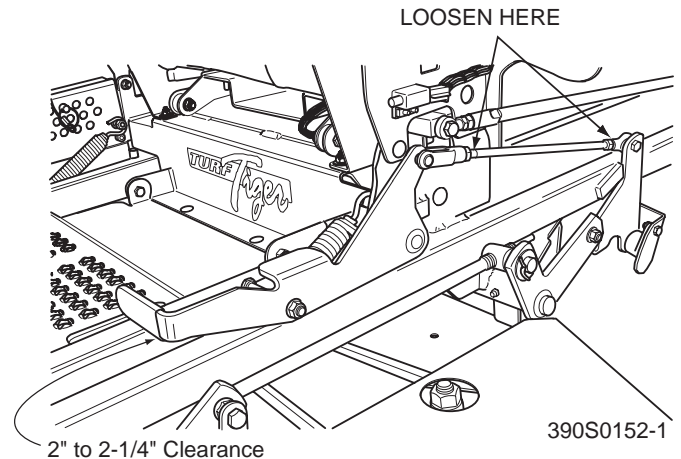

Figure 6-1. Brake Adjustment
2. With the brake lever in the disengaged position, check the distance between the top of the frame tube and the bottom of the brake handle. The distance should be 2" to 2-1/4". See Figure 6-1.
3. If the distance is not at the specified measurement, adjust by loosening the jam nuts at both ends of the brake control rod and turning the rod until the proper distance is achieved. See Figure 6-1. Tighten the jam nuts.